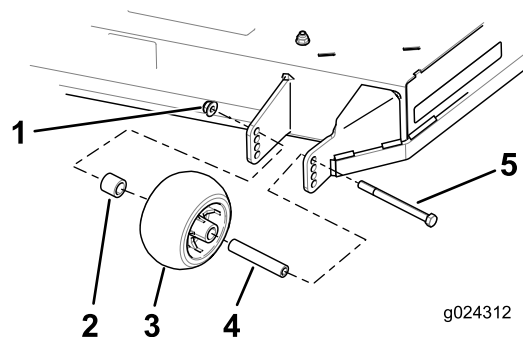

Figure 28
3. Remove the flange nut, anti-scalp roller, and bolt from the bracket (Figure 28).
4. Align the bolt and anti-scalp roller in the hole of the bracket that matched the closest height-of-cut position (Figure 28).
5. Insert the bolt into the bracket hole and secure the bolt and anti-scalp roller with the flange nut (Figure 28).